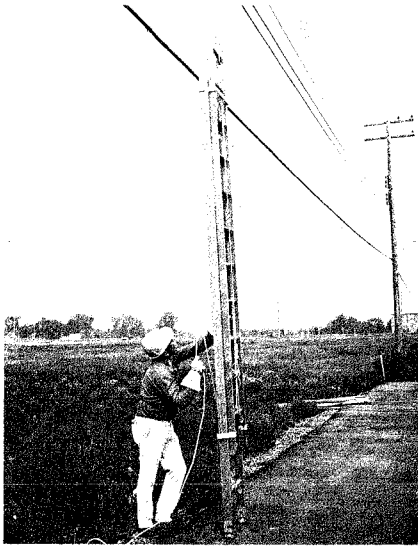

**Fig. 23 — Ladder Partially Raised**
- 7.07** Pull the handline hand over hand. As the top end of the ladder is raised off the ground, keep feet in position to block any movement of the base of the ladder to the rear (Fig. 23).